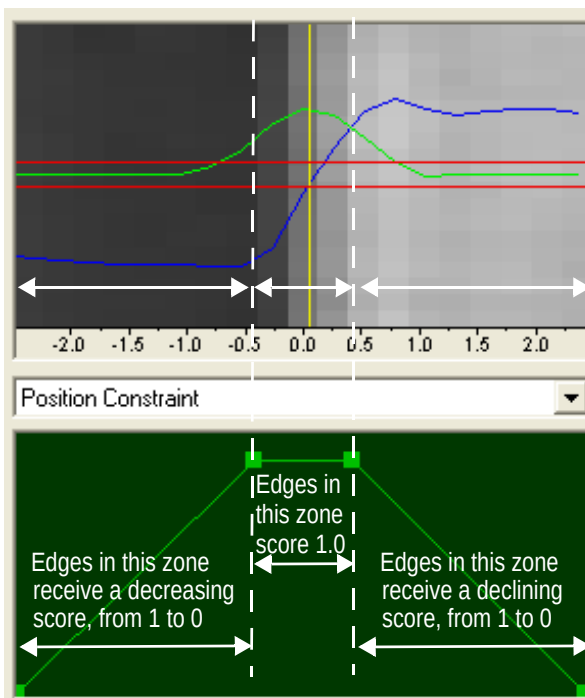

Figure 79 Position Constraint Histogram
2. Use the mouse to drag the handles in the histogram editor of the selected constraint. Set the Edge Position Constraint histogram as illustrated in Figure 79.